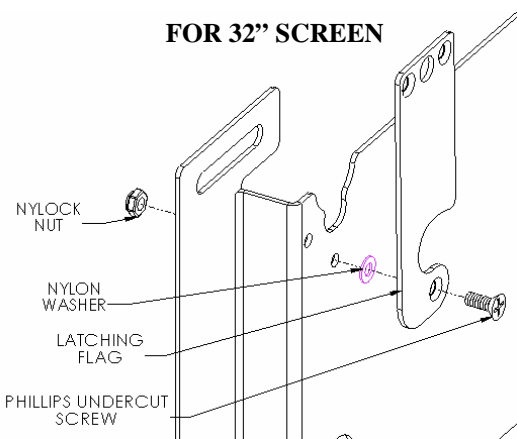
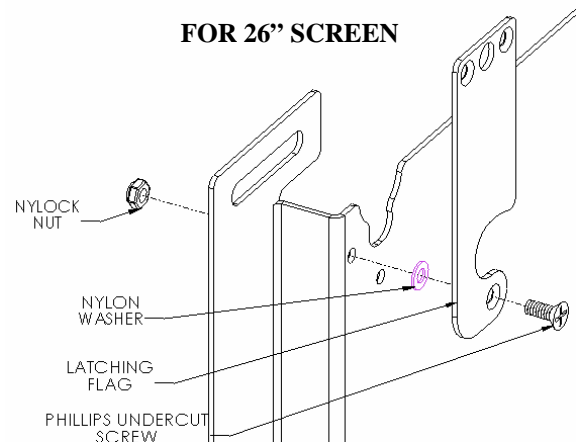

Figure 2
Figure 3
- 1) Secure latching flag to mount using the 10-24 undercut screw, Nylon washer, and Nylock nut (see Figure 2 for 32" and Figure 3 for 26" screen). Tighten until friction will hold the flag in place.